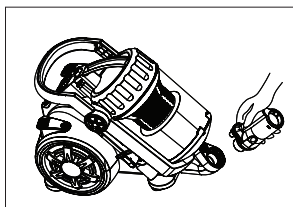

Figure 3/1
- Install the flexible hose (Figure 3/1) to the air inlet on the main body of the vacuum cleaner. Make sure that sliding parts on the hose are aligned. Press the product until the hose is fastened with a click sound.